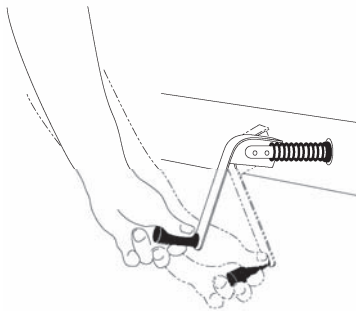

Figure 2.1A
- **To extract a retracted standard hand crank (Figure 2.1A):**